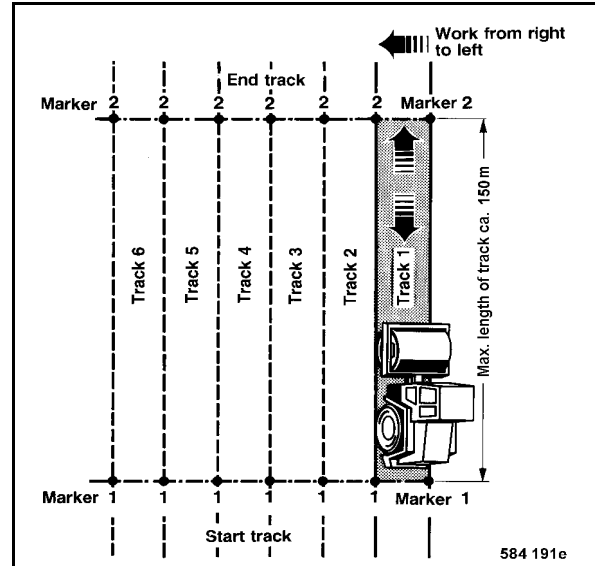

Fig. 93
- Mark the track to be compacted (Fig. 93).